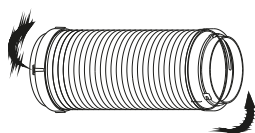
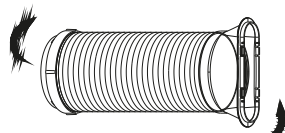

Fig.16a
Fig.16b
- 1 Install the window Exhaust adaptor B onto the exhaust hose as shown in Fig. 16a. or Fig. 16b. Refer to the previous pages for window kit installation.